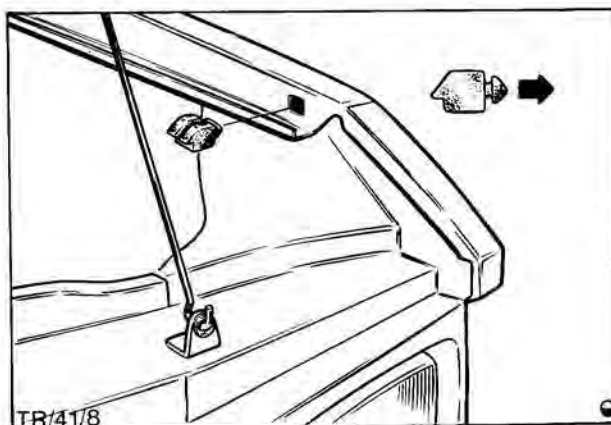

Fig. 13. Hood bump rubber assembly
1. Pull bump rubber from its location in fender drain channel, Fig. 13.